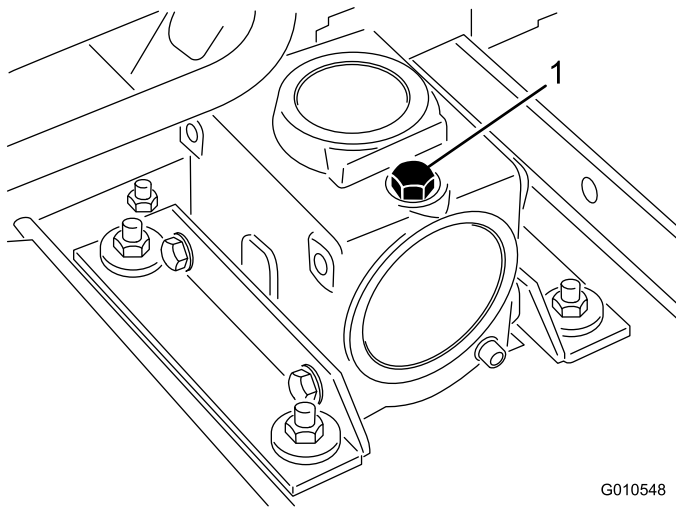

Figure 23
2. Position the machine and cutting unit on a level surface and lower the cutting unit. Remove the dipstick/fill plug from the top of the gear box (Figure 23) and make sure that the lubricant is between the marks on the dipstick. If the lubricant level is low, add SAE 80-90 wt. gear lube until the level is between the marks. The gear box capacity is 12 oz. (283 ml).